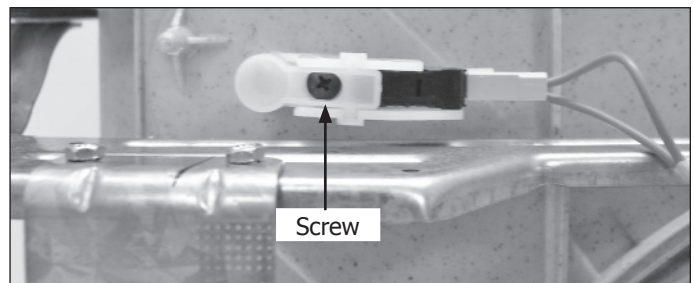

Figure 4-27.
4. Extract the Phillips head screw securing the float switch assembly to the bottom of the tub. (See Figure 4-27)